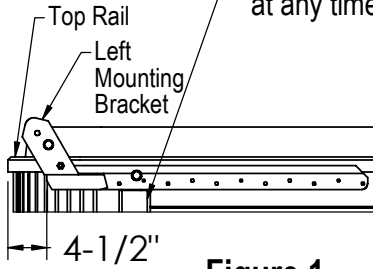

Figure 1
Step 2 - Attach the left and right side Mounting Brackets to the appropriate sides of the spa. The left side bracket has a padded pin for Wind Lock Bar support (see Fig. 6, Step 8). The brackets are mounted directly underneath the Top Rail. Position the lower left corner of the bracket 4-1/2" in from the rear edge of the Top Rail. Attach the brackets with the provided #10 x 1-1/2" screws. This procedure is the same for round or square spas. See Figure 1 at left.